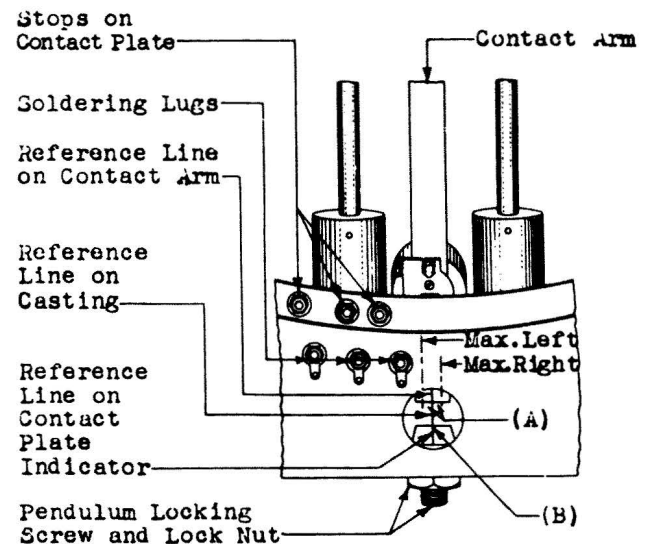

Fig. 13 - Balance of Pendulum and Contact Arm
2.11 Balance of Pendulum and Contact Arm - Fig. 13 (A): With the dial tester properly aligned for position vertically and horizontally and with the contact arm held in the correct position magnetically against the trip magnet, the mean of the amplitude of the swing of the pendulum shall not be more than .015" to the right or to the left of the vertical reference line on the base of the casting. Gauge by eye as follows:
2.14 Alignment of Contact Plate - Fig. 13(B)